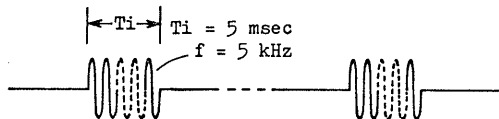

Figure 3-2
- (b) When a signal as shown in Figure 3-2 is applied and 1/3 to 1 F.S are used as 100% as was the case of (a), the pointer deflection shall be Table 3-2.